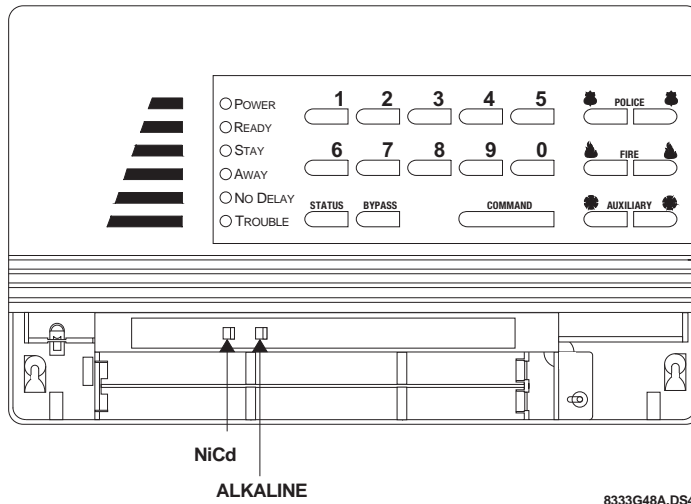

Figure 6. Tab Indicates Battery Type Installed
3. Check the battery type installed (NiCd or alkaline). You must use the same battery type that is currently installed (see Figure 6).